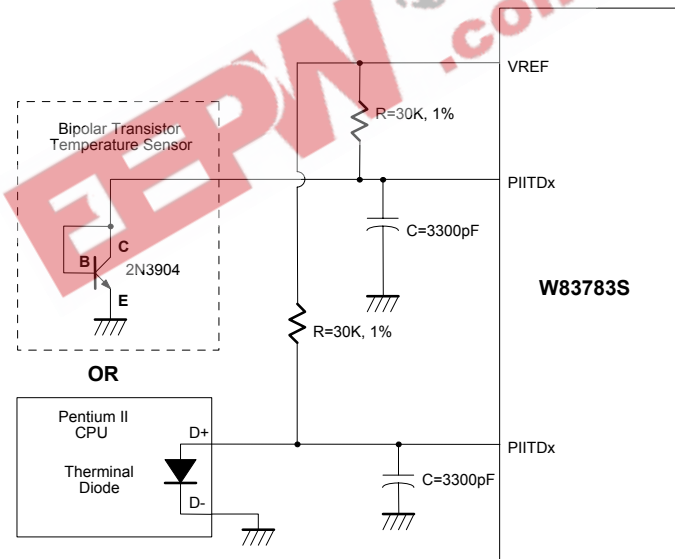

Figure 12.
The W83783S can alternate the thermistor to Pentium II™ (Deschutes) thermal diode interface or transistor 2N3904 and the circuit connection is shown as Figure 12. The pin of Pentium II™ D- is connected to power supply ground (GND) and the pin D+ is connected to pin PIITx in the W83783S. The resistor R=30K ohms should be connected to VREF to supply the diode bias current and the bypass capacitor C=3300pF should be added to filter the high frequency noise. The transistor 2N3904 should be connected to a form with a diode, that is, the Base (B) and Collector (C) in the 2N3904 should be tied together to act as a thermal diode.